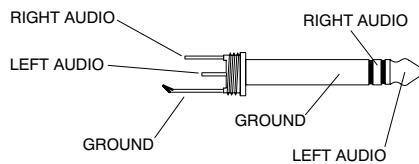

Figure 7
6. If a "tape return" or Monitor In feed into the FP33 is required, connect a 3.5 mm stereo male plug into the Mon In connector on the right side panel. The signal on this plug typically comes from the audio output of whatever device is being fed by the FP33. See Figure 7.
7. If an unbalanced output feed is desired, connect a 3.5 mm stereo male plug into the Tape Out connector on the right side panel. This would typically feed a cassette recorder or a DAT machine. Refer to Figure 7.